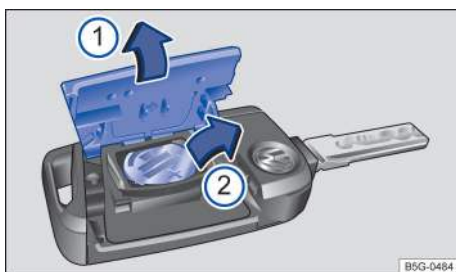

Fig. 49 Remote control vehicle key: Opening the battery compartment cover and removing the old battery.
The battery is in the back of the remote control vehicle key under a cover → **fig. 49 ①**.
Key to **fig. 49**:
- Remove the cover on the back of the remote control vehicle key → **fig. 49 ①** in the direction of the arrow using a suitable object such as a coin → **①**. This action may require some force.
- Use a thin object to pry the battery out of the battery compartment → **fig. 49 ②**.
- Position the new battery with the + side facing up and press the battery carefully into the battery compartment (opposite direction of the arrow) → **①**.